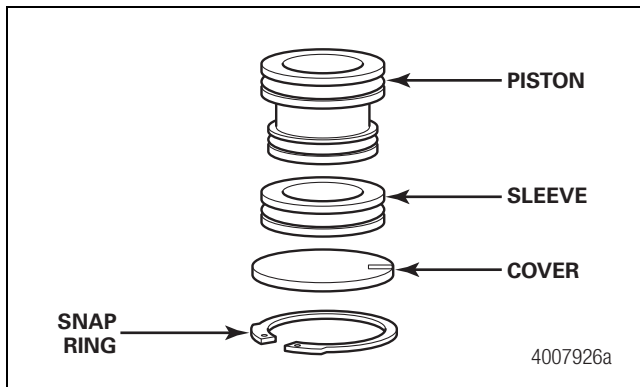

Figure 2.9
1. Remove the snap ring. Figure 2.9.